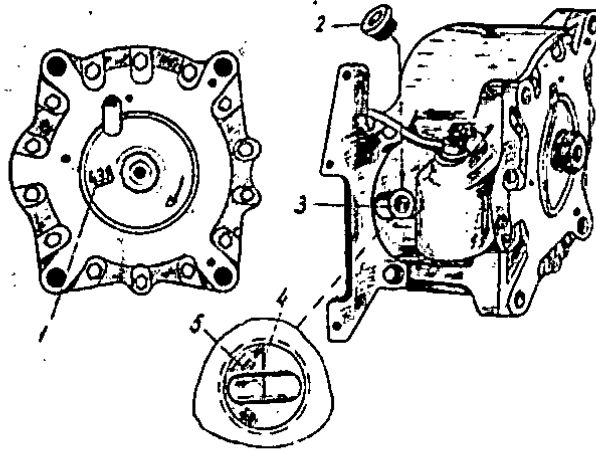

Fig. 20. Mounting the HB-82B pump.
6. Set the cam disc of the pump to be installed in the position corresponding to the beginning of fuel injection into cylinder No.4 (Fig.20).
1. Unscrew the plug 2 of the inspection eye of the 4-th pump plunger and turn the crankshaft in the direction of rotation until mark 3 on the tappet of the 4-th plunger and mark 4 on the wall of the inspection eye coincide (with the tappet moving from the pump flange to the fuel pipe connections). (Fig. 20).